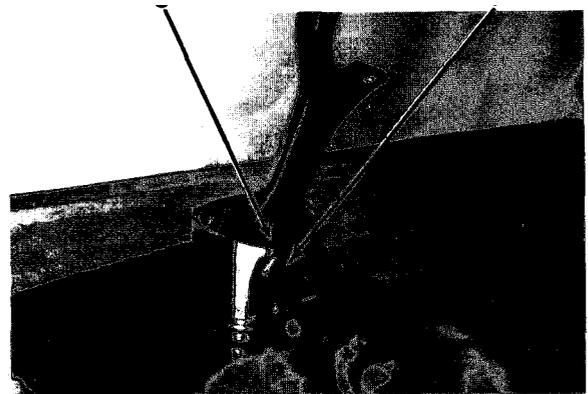
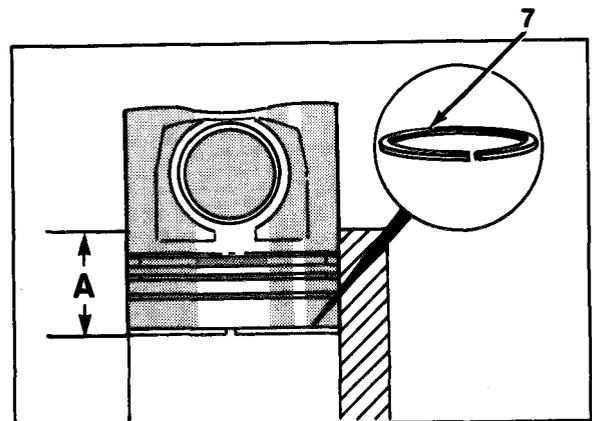

Figure 6-19
Figure 6-20
4. Lubricate piston pin (5, Figure 6-19) with engine oil and install.
5. Install second of two retaining rings (4).
6. Position one of three new piston rings (7, Figure 6-20) in cylinder and use a piston to square it in cylinder bore. A = 3.5 in. (89 mm)
7. Using a feeler gage, measure piston ring (7) gap and remove from cylinder.